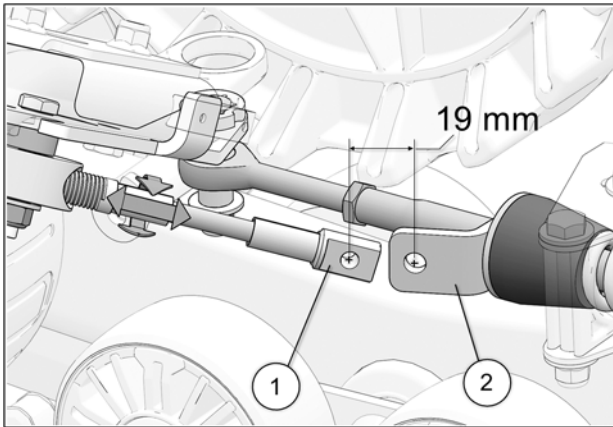

Fig. 21
14. Turn the vehicle's steering wheel to its maximum point of travel on the left. While maintaining pressure on the steering wheel, turn threaded rod to adjust length of cable. See Fig. 21
15. Position cable end hole (1), 19 mm [$\frac{3}{4}$ in.] short of support plate (2) mounting hole. See Fig. 21